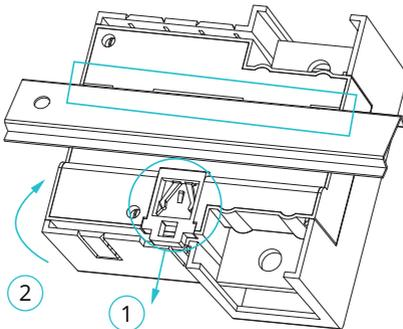

Figure 2-3 AcuDC 300 Installation on DIN Rail
1. From the back of the AcuDC 300, simultaneously and carefully pull down the clip lock as shown in ① of Figure 2-3.
2. Position the AcuDC 300 so its back is facing the DIN rail. Place the AcuDC 300 two upper mounting brackets over the top of the DIN rail groove. Fit the AcuDC 300 onto the DIN rail as illustrated in ② of Figure 2-3.